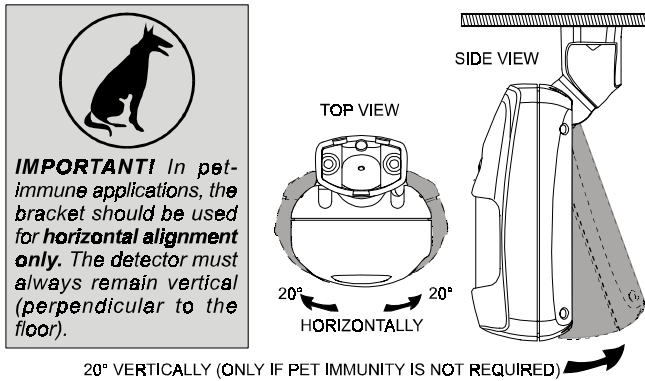

Figure 7. Tilt/Swivel Limits
- H. Swivel the detector horizontally to face the desired direction, but **do not tilt it if this is a pet immune application**. However, if pets are not present it is advisable to tilt the detector as much as 20° down. Figure 7 shows the tilt/swivel possibilities.